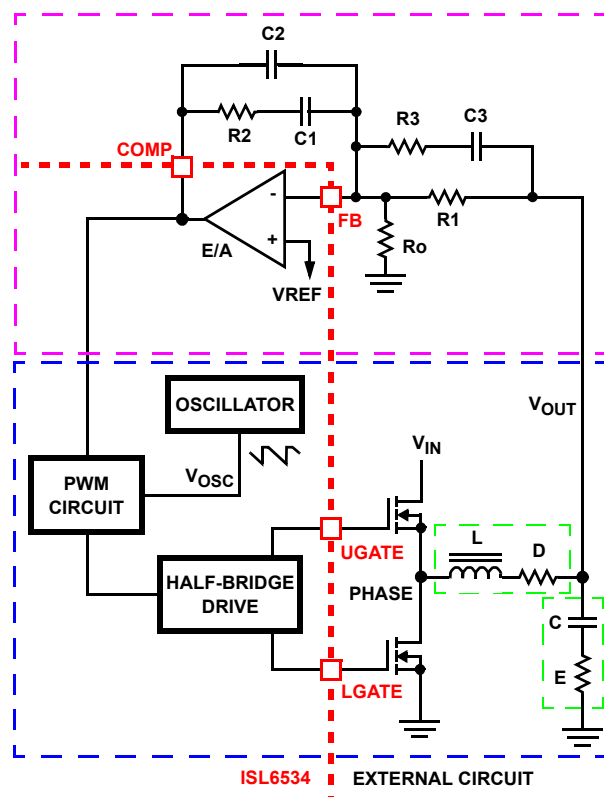

FIGURE 16. VOLTAGE-MODE BUCK CONVERTER COMPENSATION DESIGN
Figure 16 highlights the voltage-mode control loop for a synchronous-rectified buck converter, applicable to the ISL6534 circuit. The output voltage (V_{OUT}) is regulated to the reference voltage, V_{REF} . The error amplifier output (COMP pin voltage) is compared with the oscillator (OSC) modified sawtooth wave to provide a pulse-width modulated wave with an amplitude of V_{IN} at the PHASE node. The PWM wave is smoothed by the output filter (L and C). The output filter capacitor bank's equivalent series resistance is represented by the series resistor E.
5. Select a value for R1 (1k Ω to 5k Ω , typically). Calculate value for R2 for desired converter bandwidth (F_0). If setting the output voltage via an offset resistor connected to the FB pin, Ro in Figure 16, the design procedure can be followed as presented.